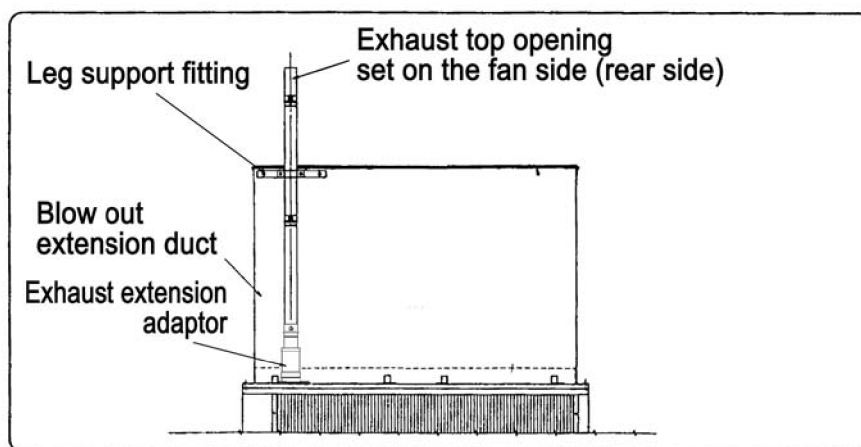

Figure 10
- 2) For an example of using a leg support fitting, refer to Figure 10.